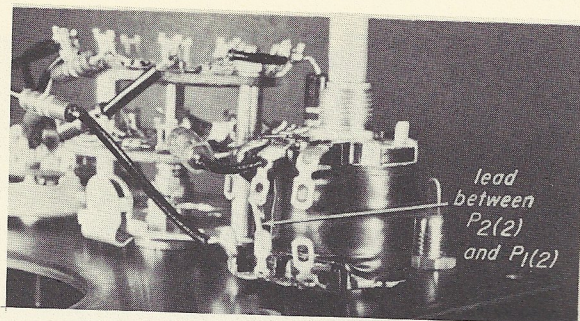

Fig. 5-9
Step 2. Connect one end of this lead to terminal 2 of potentiometer P_2 , as shown in Fig. 5-9.